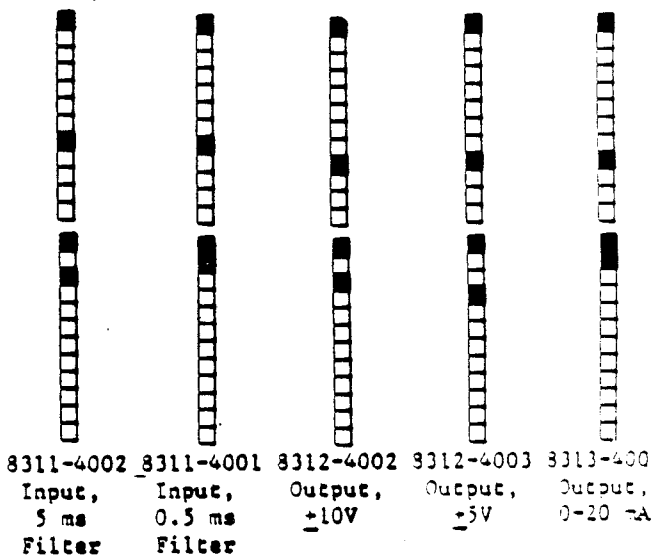

Fig. 7 - Module Mechanical Coding
1. Socket for measuring output signal, channel 0 (corresponds to output D0 or D32 at Fig. 7)
2. Socket for measuring output signal, channel 15 (corresponds to output D15 or D47 at Fig. 7)
The mechanical coding fingers on each analog input and analog output module have been factory preset and are not adjustable. Similarly, the subrack mechanical code has been set to the same code by placing stop pegs in the positions indicated in Fig. 7.